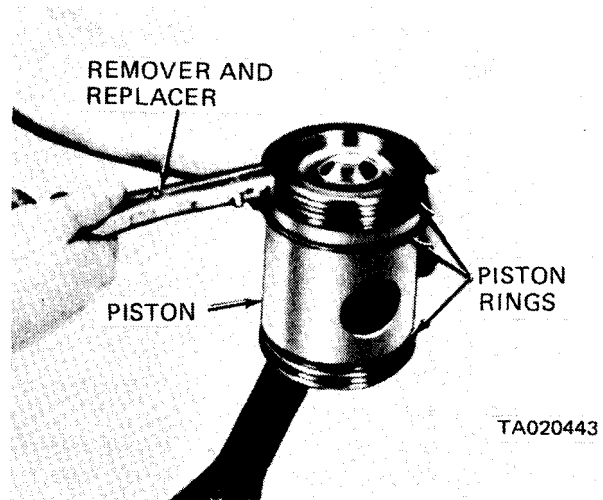

Figure 3-110. Piston, ring, removal and installation.
(6) Refer to figure 3-117 for proper ring location and install the four compression rings on the piston using a ring expander as illustrated in figure 3-110. Stagger the ring gaps around the piston. Do not spread rings more than necessary to install on piston.